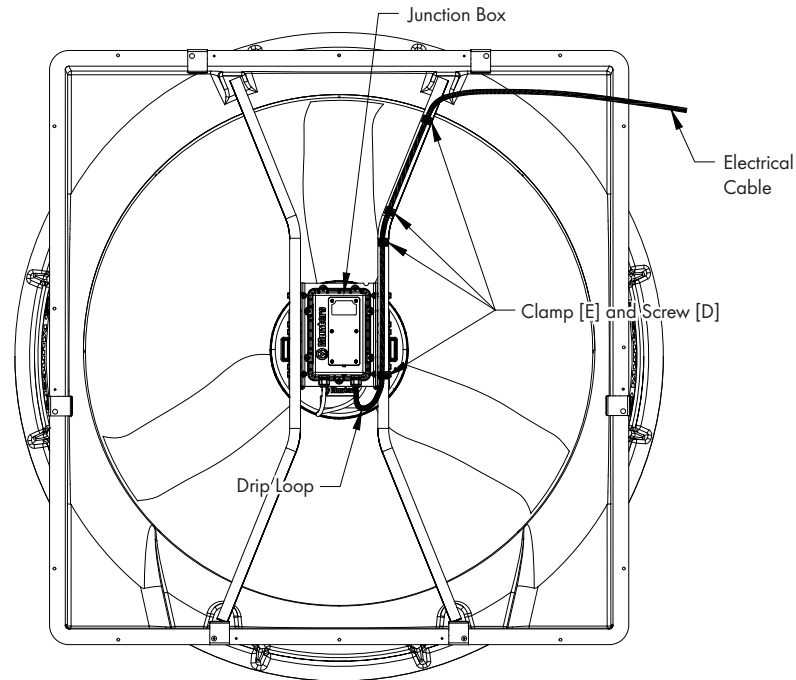

Figure 6
The Munters Drive MA Kit comes with a coil of electrical cable that is pre-wired to controller. Determine where the existing power for fan enters housing and route the cable up or down the left or right strut toward the existing power. Create a drip loop in bottom of cable and then fasten it to the strut using (4) Wire Clamps [E] and TEK Screws [D]. Attach new cable to existing power supply for fan. See Figure 6.